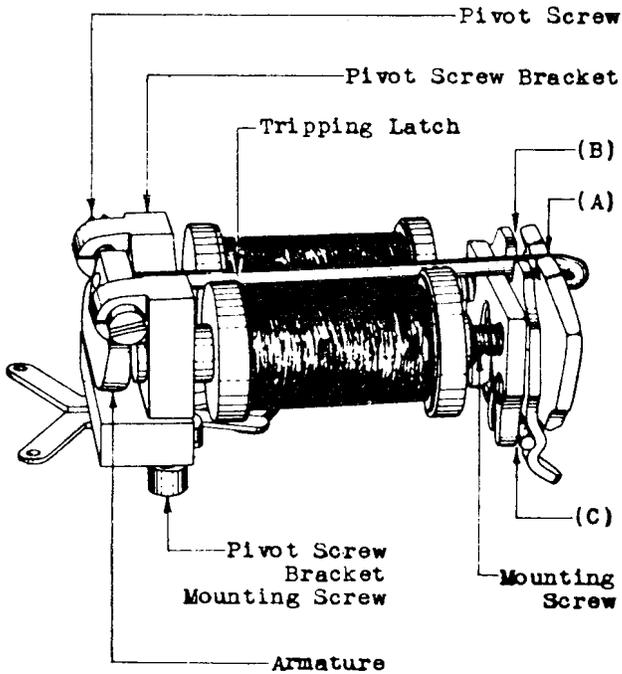

Fig. 2 - Parts of 4 Type Drop
2.06 Shutter Movement - Figs. 2 (C) and 3 (A): The shutter shall move freely on its hinge pin. Gauge by feel.
2.08 Shutter Clearance - Figs. 2 (B) and 3 (C):